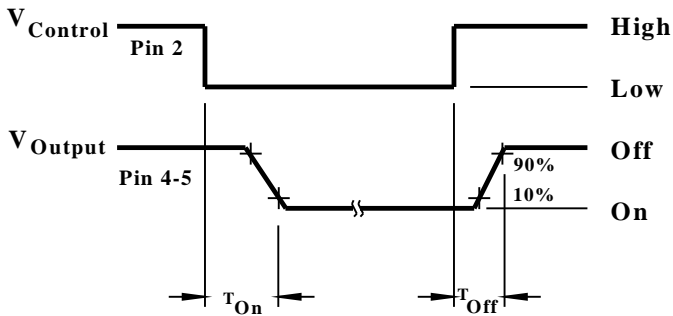

Figure 4
5. To determine the maximum on-resistance at any given junction temperature, multiply on-resistance at 25°C by normalized on-resistance factor from curve (Figure 4).
6. Overload testing per MIL-R-28750 is constrained to the limits imposed by the short circuit protection requirements of this specification and DESC drawing 90091. Load circuit series inductance for “load shorted” mode of operation to be limited to 50 mH max. Maximum repetition rate into a shorted load should not exceed 10Hz. To calculate maximum on-resistance at any temperature, use following equation :  $R(on) = R(on) @ 25^{\circ}C \times NF$  (without short circuit protection) and  $R(on) = 0.2 \times NF + .21$  (with short circuit protection) where NF = normalized on-resistance factor from Figure 4.